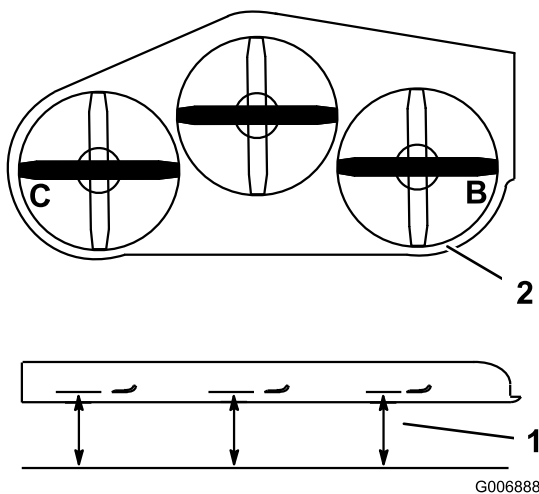

Figure 64
1. Position the **right** blade side-to-side (Figure 64).
2. Measure the right blade at the **B** location, from a level surface to the cutting edge of the blade tip (Figure 64).
4. Position the left blade side-to-side (Figure 64).
5. Measure the left blade at the **C** location (Figure 64), from a level surface to the cutting edge of the blade tip.